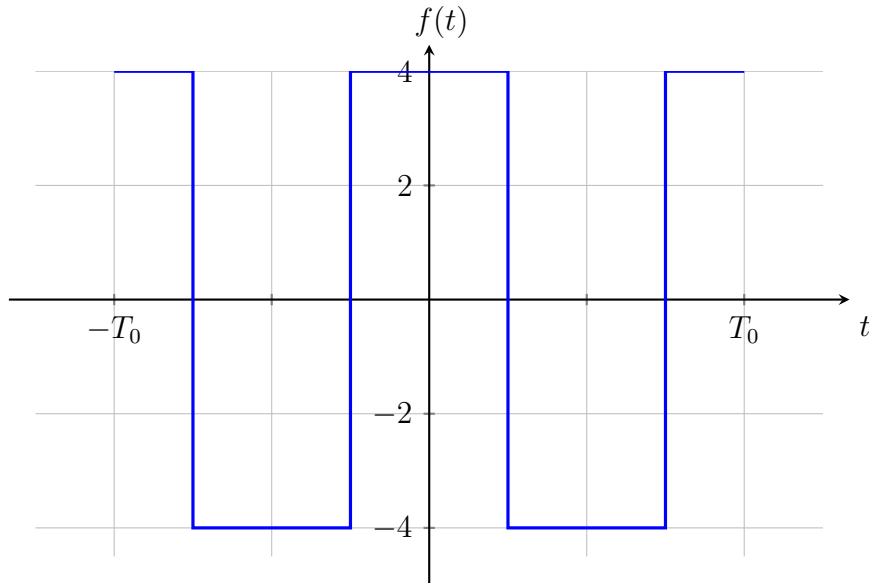
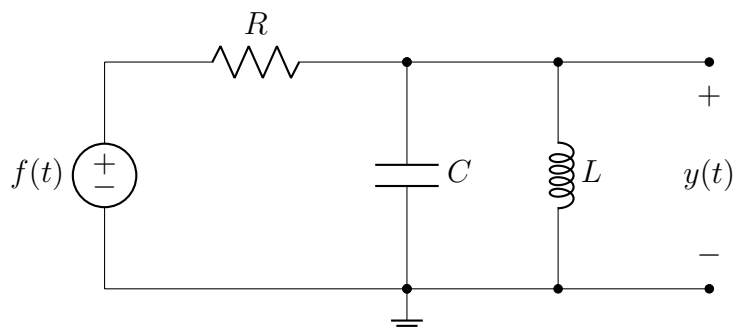

Figure 5.1: 4 V square wave.
Figure 5.2: Series/parallel resonant circuit
Derive the exponential Fourier series for the square wave that has an amplitude of 4 V (8 V peak-to-peak and no DC component seen in Fig. 5.1).
Find the ODE governing the circuit in Figure 5.2. From the ODE, derive the transfer function  $H(s)$  from this ODE. In your `ece3210_lab06.py`, add a simulation of the system if the input  $f(t)$  is the square wave in Fig. 5.1.
- What ODE governs the circuit in Fig. 5.2?
Connect the 1 k $\Omega$  resistor, the 0.033  $\mu$ F capacitor, and the 1 mH inductor as shown in Figure 5.2. Connect the input to the function generator and attach a scope probe to the output. Configure the function generator to produce a 20 kHz square wave with a 4 V amplitude. Compare the scope output to your predicted response. It is unlikely they are the same due to part tolerances. The easiest (but not the most accurate) way to compensate is to adjust the frequency until the images are similar. Record your observations and include a conclusion in your Canvas submission summarizing what you have observed or discovered.